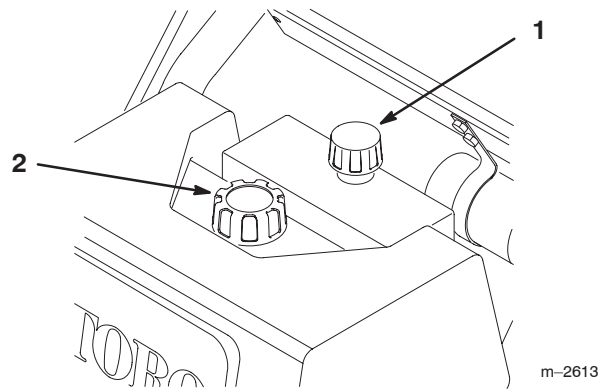

Figure 29
2. Clean area around filler neck and cap\dipstick of hydraulic tank (Fig. 29).